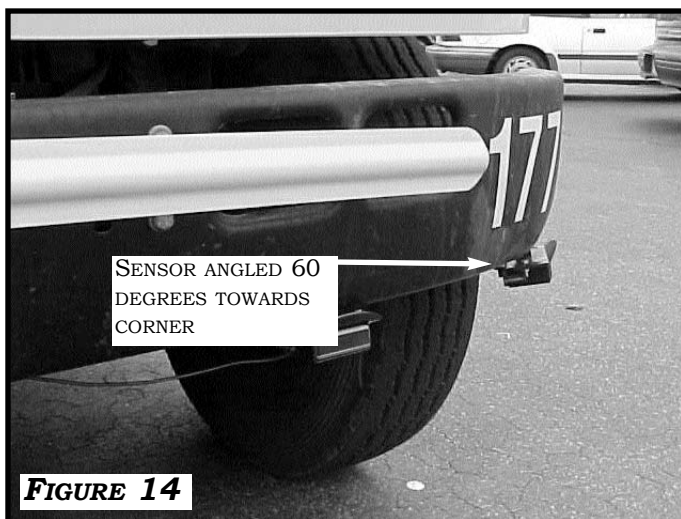

FIGURE 14
1. ZONE 2 IS THE AREA OF THE BUS COVERED BY EACH SENSOR ON THE CORNERS OF THE FRONT BUMPER OF THE BUS. REFER TO **DIAGRAMS 1 AND 4** FOR SENSOR LOCATIONS. EACH SENSOR SHOULD BE ANGLED OUT 60 DEGREES TOWARDS THE FRONT CORNERS. **FIGURE 14** FIND A REASONABLY FLAT SPOT ALONG THE BOTTOM EDGE OF THE LEFT AND RIGHT CORNERS OF THE BUMPER AND DRILL ONE 1/4" HOLE PER SIDE. PLACE THE TOP PLATE SENSOR BRACKET ONTO THE SENSOR ASSEMBLY BY LINING UP THE TWO MOUNTING SLOTS. THEN PLACE THE CENTER BOLT ADAPTER BRACKET ONTO THE TOP PLATE BRACKET BY LINING UP THE HOLES AND SLOTS (**FIGURE 16**). SECURE THE ASSEMBLY OF BRACKETS USING THE 20MM BOLTS, WASHERS, AND 10MM NUTS IN THE KIT. MOUNT THE SENSOR ASSEMBLY TO THE 1/4" HOLE IN THE BUMPER USING ANOTHER 20MM BOLT **FIGURE 16**.